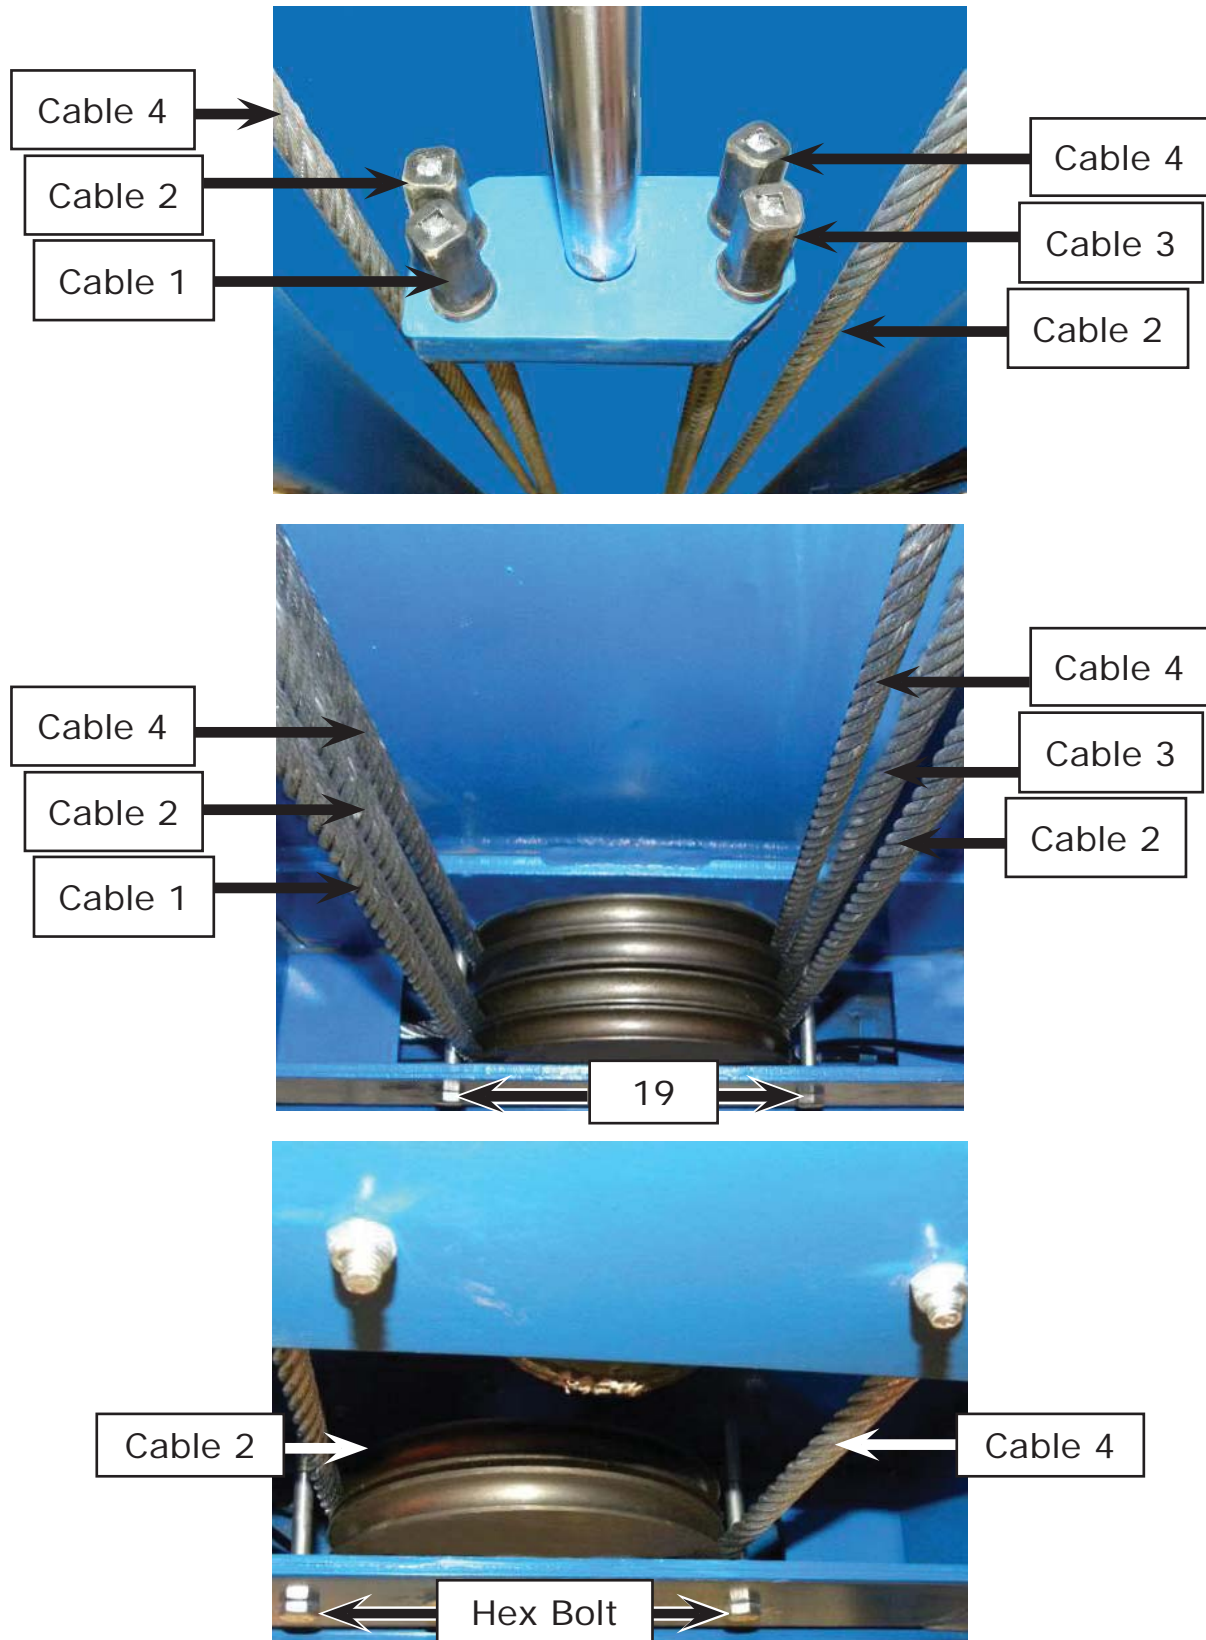

Fig. 22
1. After routing the cables through the pulleys, attach the cables to the connecting plate (See Fig. 22).